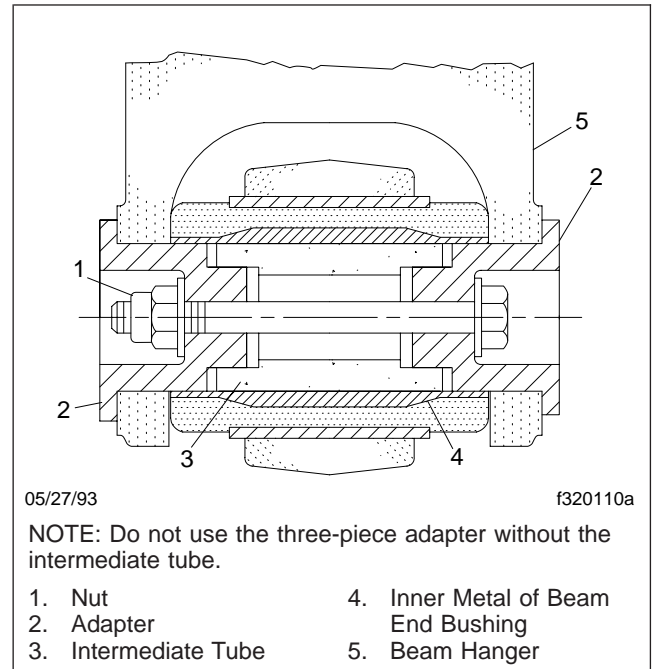
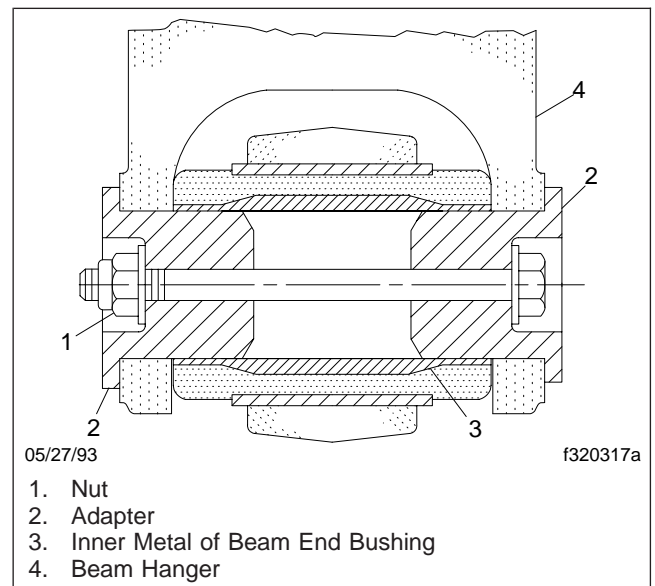

Fig. 6, Three-Piece Adapter-Type Beam End Connection
Fig. 7, Two-Piece Adapter-Type Beam End Connection
4. After repairs to the suspension, check the fastener torque after the vehicle has been in service for 2500 miles (4000 km). If equipped with the adapter-type beam end connection (see **Fig. 6** for the three-piece adapter-type beam end connection, or **Fig. 7** for the two-piece adapter-type beam end connection), tighten the nut 210 to 240 lbf-ft (285 to 325 N-m). If equipped with the